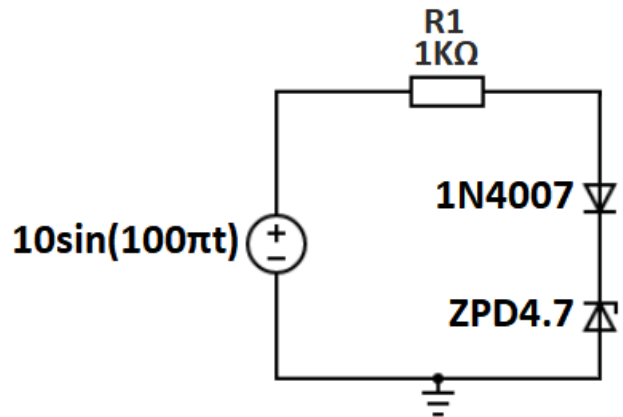

Fig. 5: Half-Wave Clipper Circuit
1) *Block Diagram of Task 3:* The circuit shown in Figure 5 consists of two diodes: a Zener diode (ZPD4.7) and a rectifier diode (1N4007), along with a resistor and a sinusoidal voltage source. This setup limits the output signal in one direction, depending on the orientation and breakdown voltage of the Zener diode and the forward voltage drop of the rectifier diode.
- 1) **Circuit Assembly:** Assemble the half-wave clipper circuit as shown in Figure 5. Ensure all components are connected correctly with proper orientation: